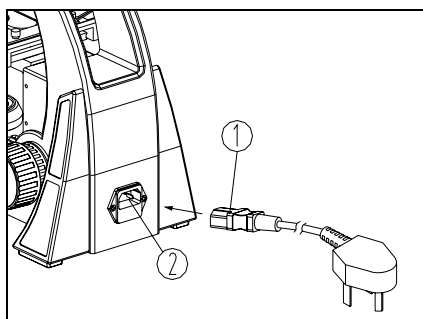

Fig.7
2. Insert one end of power cord① into the power socket② of the microscope. Then insert the other end into the power supply socket and make sure well-connected (See Fig.7).